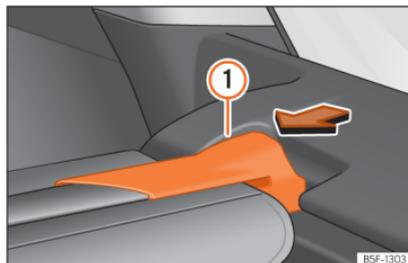

Fig. 126 In the luggage compartment: removing the shelf.
- Press the rear shelf support »» Fig. 126 ① in the direction of the arrow.
- Engage the support of the rear shelf »» Fig. 126 ① into the housing on the other side.